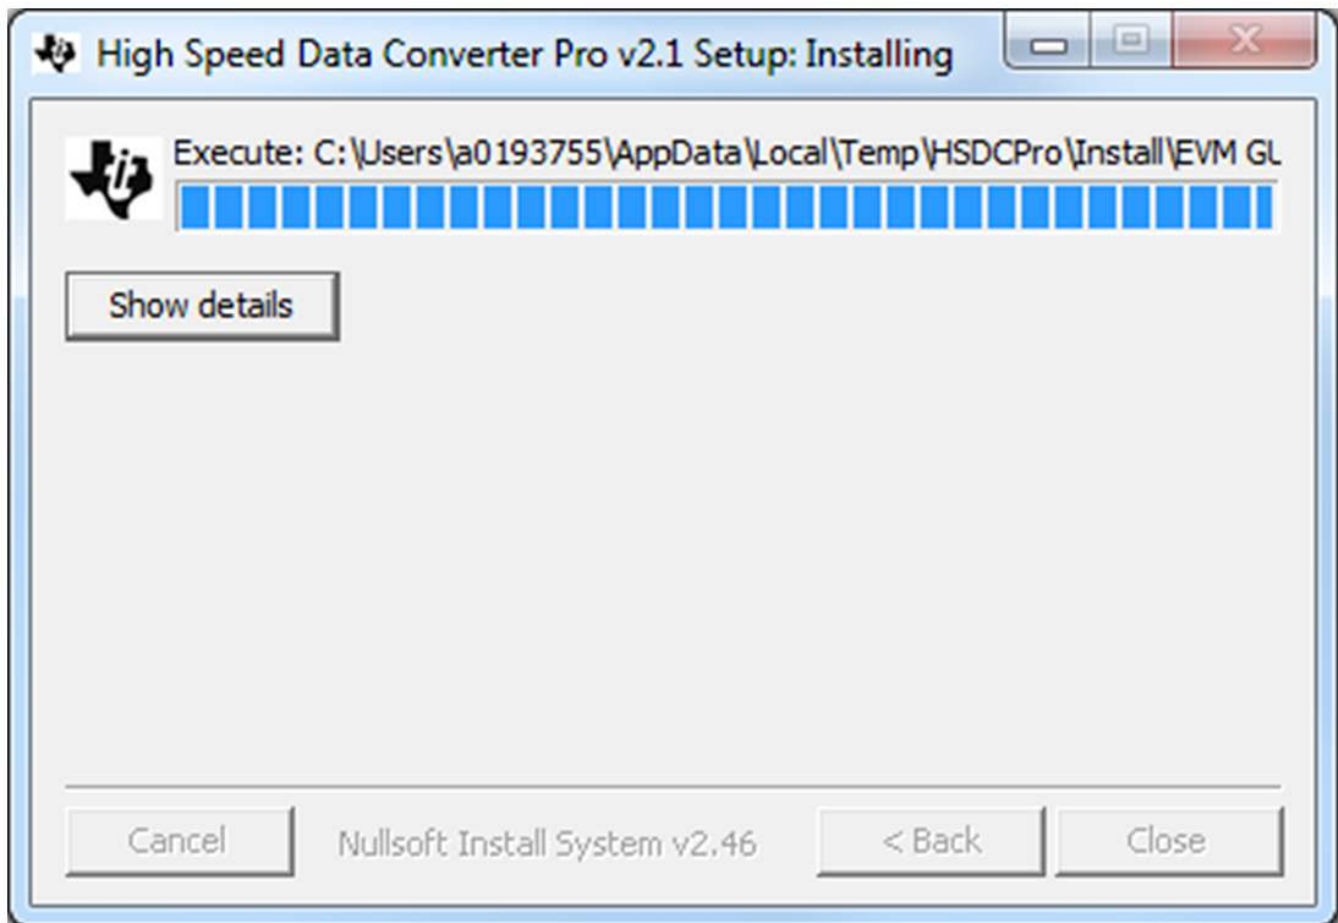

Figure 39. HSDCPro Install (h)
- The window shown in Figure 39 appears briefly to complete the process.